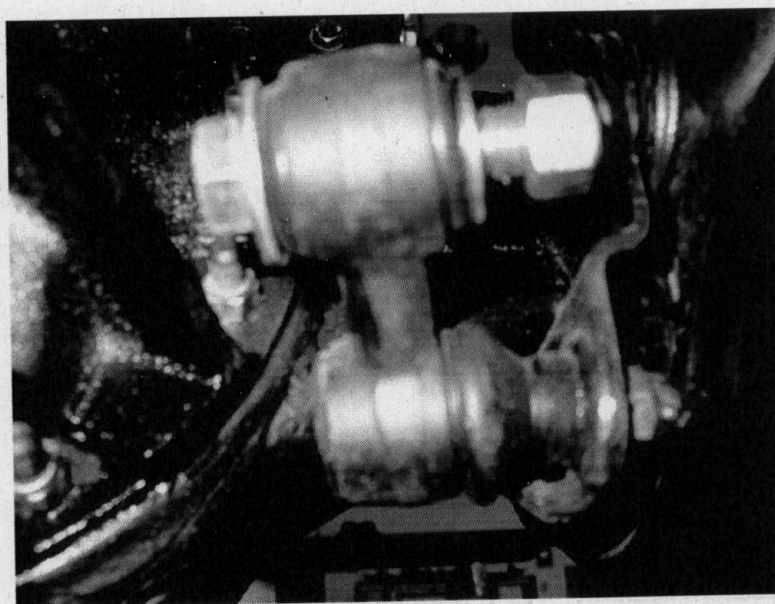

Fig 3.
- 9.9 Remove the split pin and bolt from the drop link on each side of the vehicle, see fig 3.